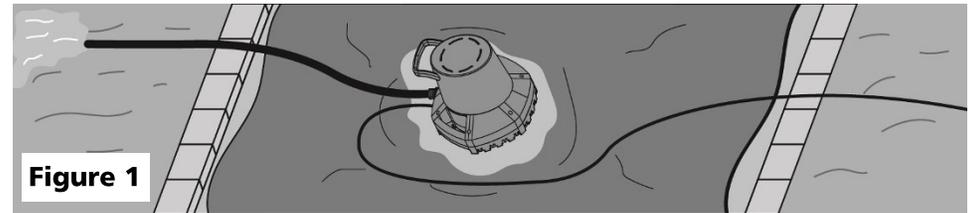

Figure 1
3. Place the pump upright on the cover where water will collect. See Figure 1. Do not place the pump directly in mud, sand or leaves as these materials can clog or cause damage the pump. Do not move or position the pump by the power cord or discharge hose. If necessary, use a length of rope secured to the lower pump handle to position.